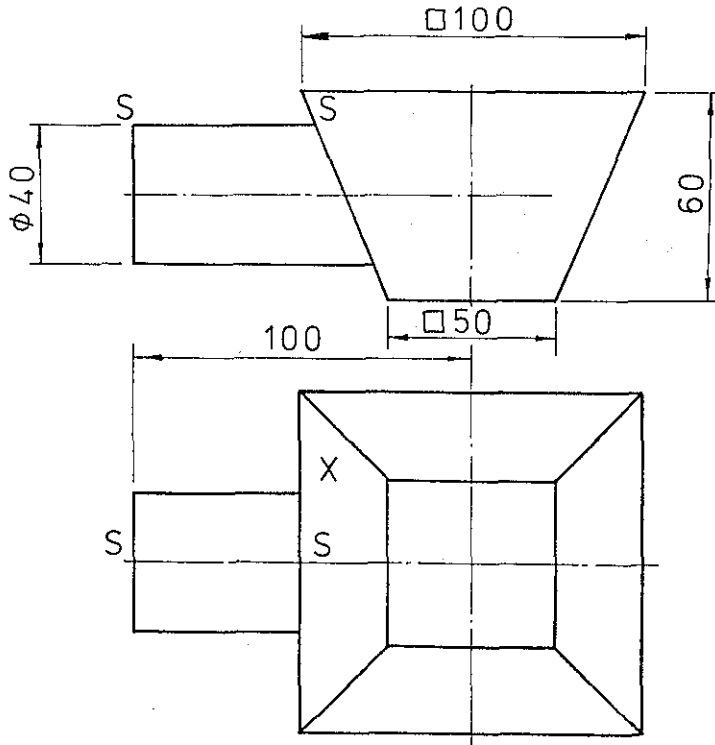

FIG. 2
2. Fig. 2 shows an elevation and incomplete plan of a metal hopper with a cylindrical pipe leading from it.